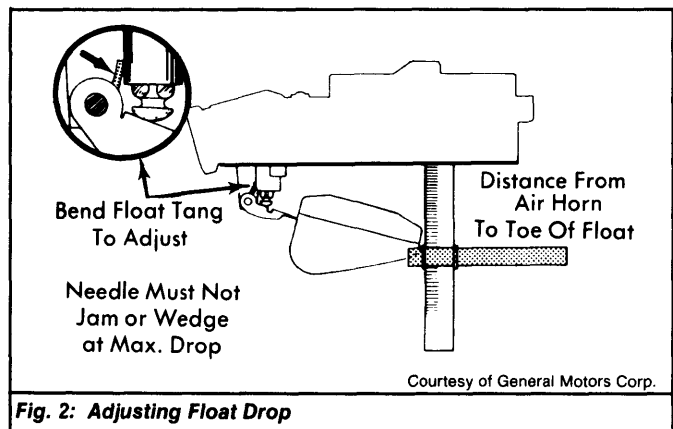

Fig. 2: Adjusting Float Drop
1) Remove air horn, leave gasket in place. Hold air horn upright. Allow float to hang down by its own weight. See Fig. 2. Using "T" scale, measure distance from air horn gasket to index point at toe of float.